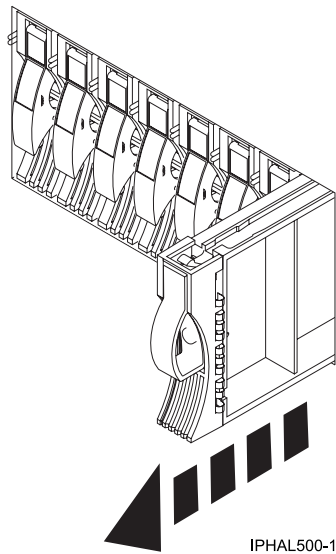

Figure 29. Removing a disk drive filler from the system
2. Hold the filler handle (A) and pull out the disk drive filler from the slot, as shown in Figure 29 on page 49.